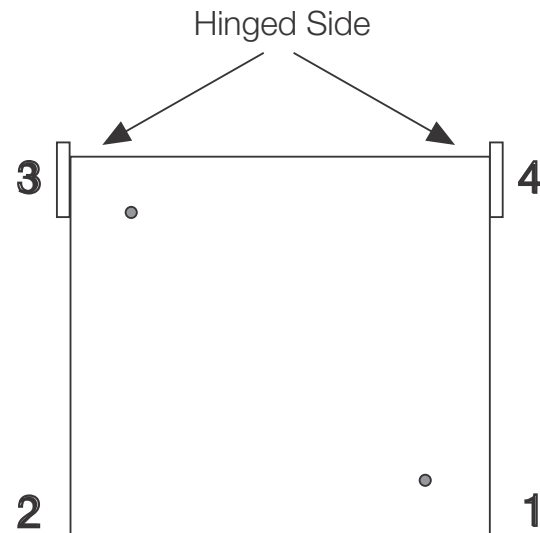
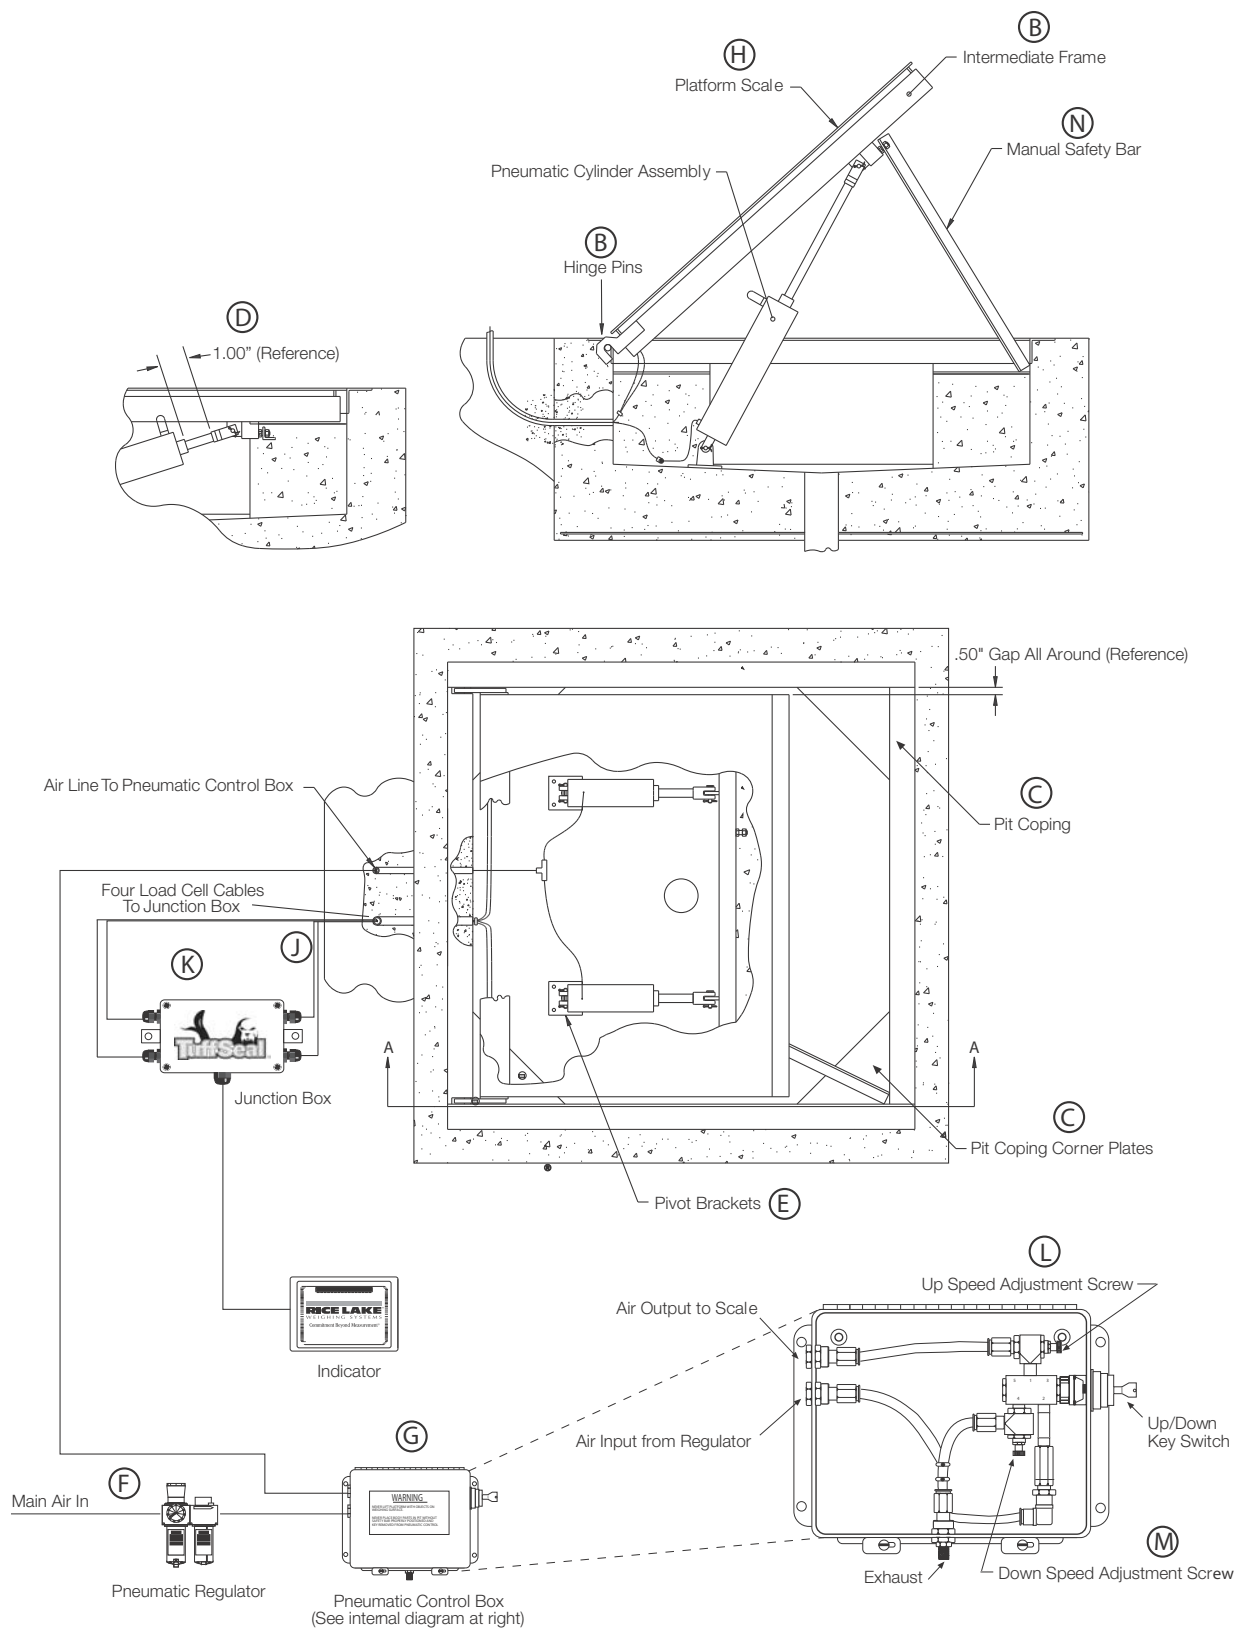

Figure 4-1. Corner Numbering - Top View
Figure 4-2. Installation Diagram.
1. Fit the pivoting intermediate frame over the hinge pins (Figure 4-2, B). The intermediate frame should be seated on the pit coping corner plates (Figure 4-2, C).
3. Adjust each cylinder rod until it is approximately 1" from the fully-retracted position (Figure 4-2, D). Place the pivot brackets (Figure 4-2, E) against the pit floor and use them as templates to mark the mounting hole locations. Be sure the air cylinders are parallel with one another and square with the intermediate frame support tube.
5. Attach the main air line to the inlet side of the regulator (Figure 4-2, F). Attach the air line from the outlet side of the regulator to the input fitting on the pneumatic control box (Figure 4-2, G).
7. Place the platform scale onto the intermediate frame (Figure 4-2, H), making sure feet sit on corner pads without rocking. Adjust feet as necessary so the platform is level to within $\frac{1}{4}$ ".
8. Feed the load cell cables through the conduit. Leave a strain relief loop to allow enough cable for free movement of the scale in the lifted position without tension in the cables (Figure 4-2, J).
9. Route the load cell cables through the fittings in the junction box (Figure 4-2, K). Wire the cables to the junction box according to the corner numbering diagram (Figure 4-1) and load cell wiring chart (Table 4-1). Coil and store excess cable before hooking up to junction box.
10. Adjust speed during the lift cycle using the up speed adjustment screw (Figure 4-2, L) in the pneumatic control box. Once you have achieved the desired speed, tighten the lock nut. Adjust descent speed using the down speed adjustment screw (Figure 4-2, M), then tighten lock nut.
Do not work under the raised scale or place body parts under a raised scale without the safety bar properly positioned. Position the safety bar in the corner of the pit coping as shown in Figure 4-2, N. Release the pressure on the cylinders to allow the frame to rest on the safety bar.
Remove the junction box cover and identify the load cell terminals corresponding to each corner (labeled CELL 1, CELL 2, CELL 3, and CELL 4). See Figure 4-1 on page 6 for scale deck corner numbering.